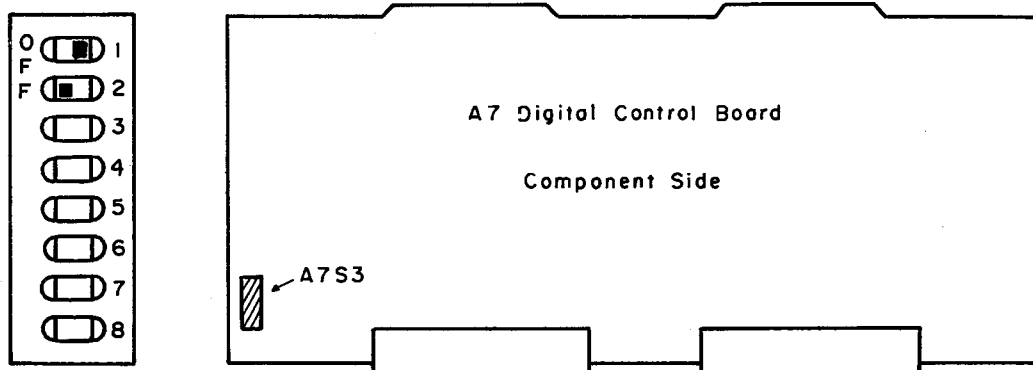

Figure 2-7. A7S3 Setting for Option 101
6. Remove the A7 board, and set bits 0 and 1 of switch A7S3 (A7S3-1 and A7S3-2), as shown in Figure 2-7.